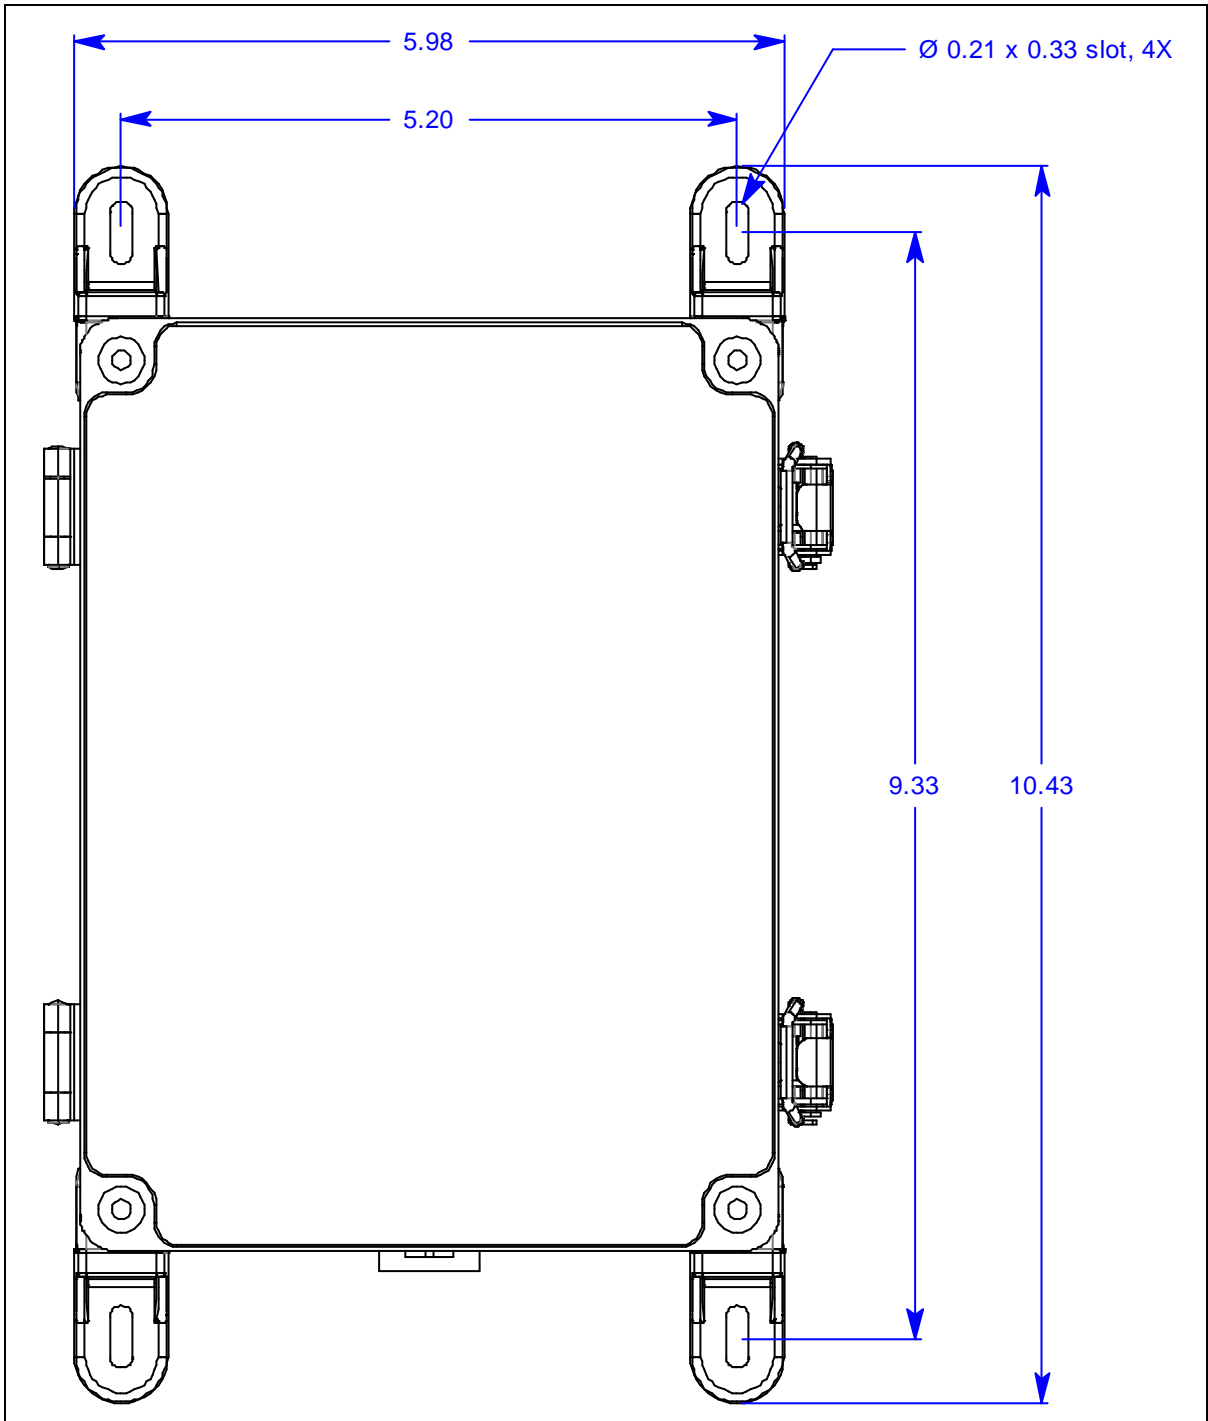

Figure 2: Dimensions
- Is there enough room to open the housing door and make wiring connections (see Figure 2)?